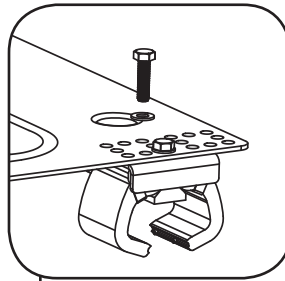

Fig. 4a
1. Once standing seam spacing has been determined, attach one capped clamp assembly (X11018) to each of the four corners of the base as shown in Fig. 4a. Install each bolt completely through the washer and base mounting hole and into the corresponding hole in the clamp assembly bar. Do not tighten until the base is set on the standing seam roof.